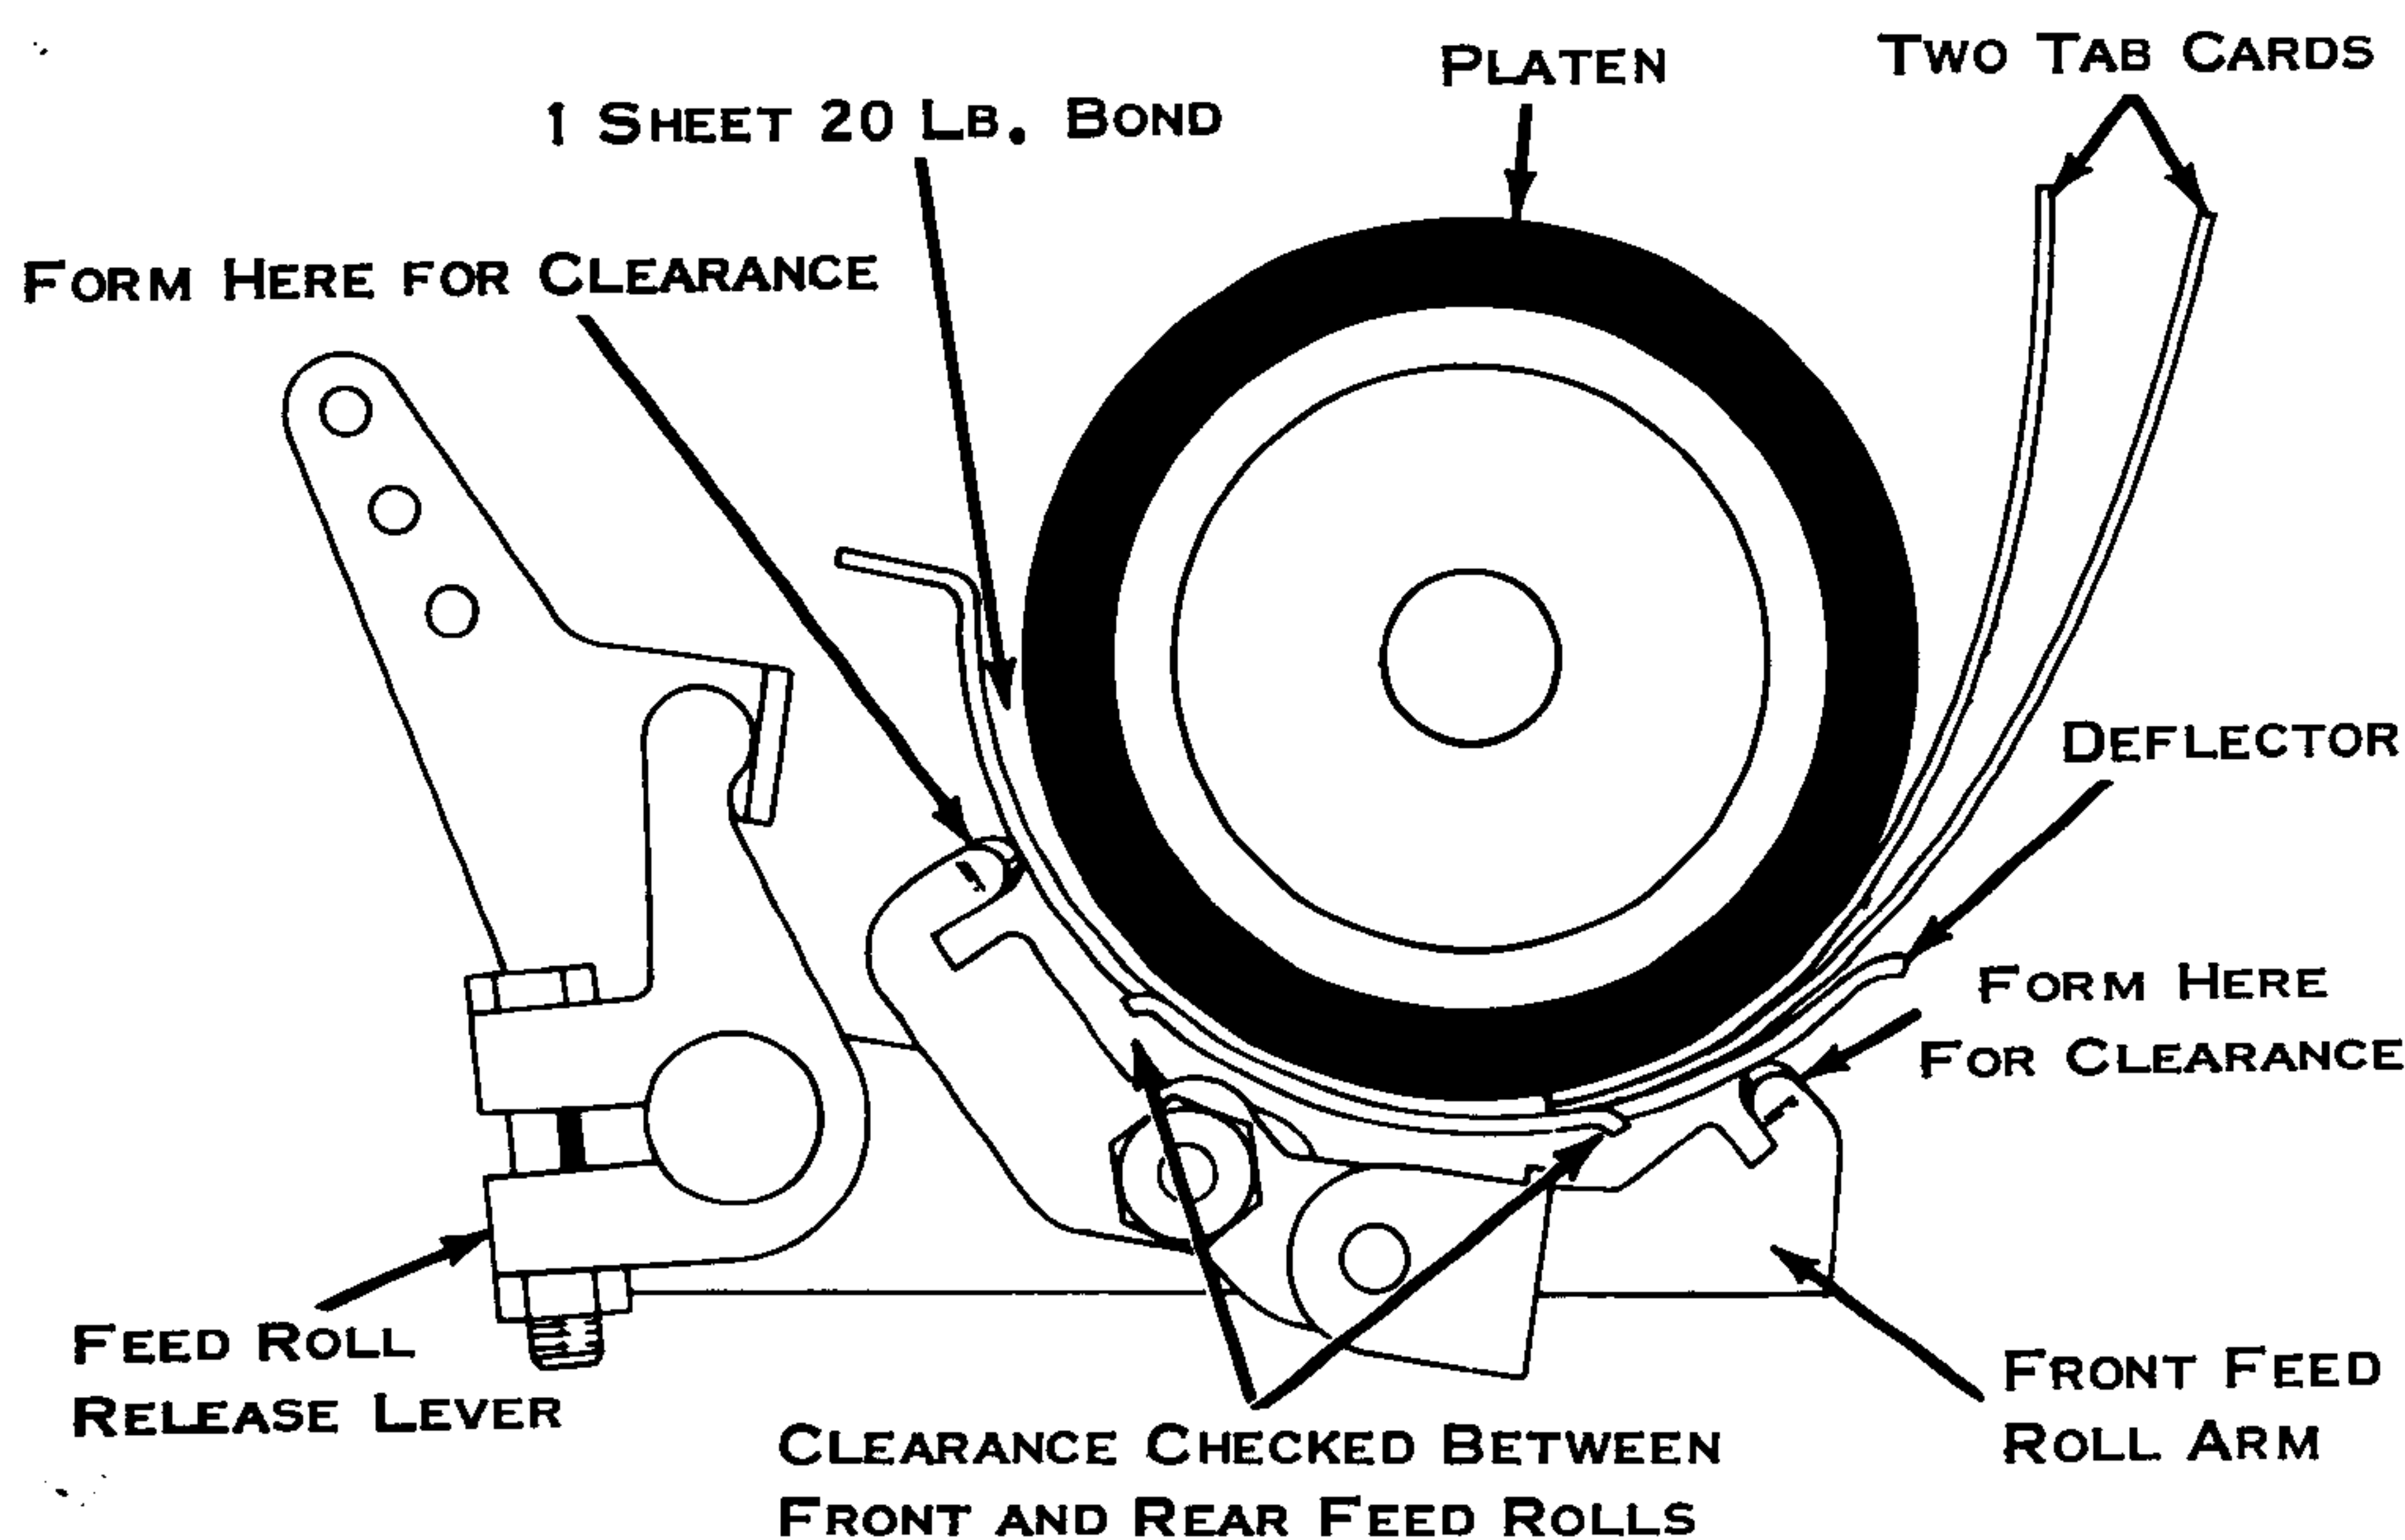

Figure 200. Deflector
9. Deflector (Fig. 200) - The deflector should clear the platen by the thickness of two data card strips at the front and by the thickness of one strip of 20# bond paper at the rear. The support lugs on the front and rear feed rolls should be formed to obtain this adjustment.